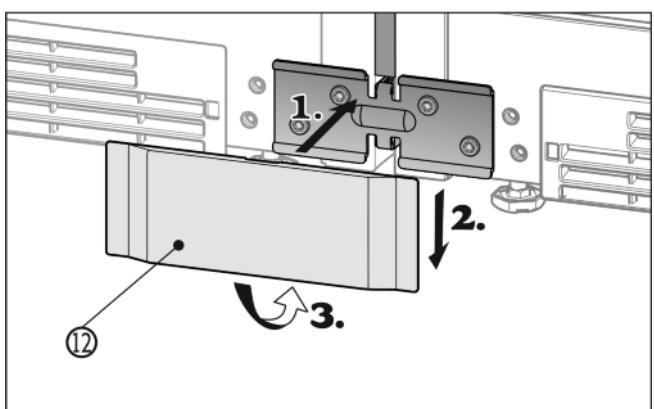

Fig. 16
- ▶ Place the bottom cover *Fig. 16* (12) onto the bracket from the front (1), slide it down (2) and snap it in at the bottom (3).